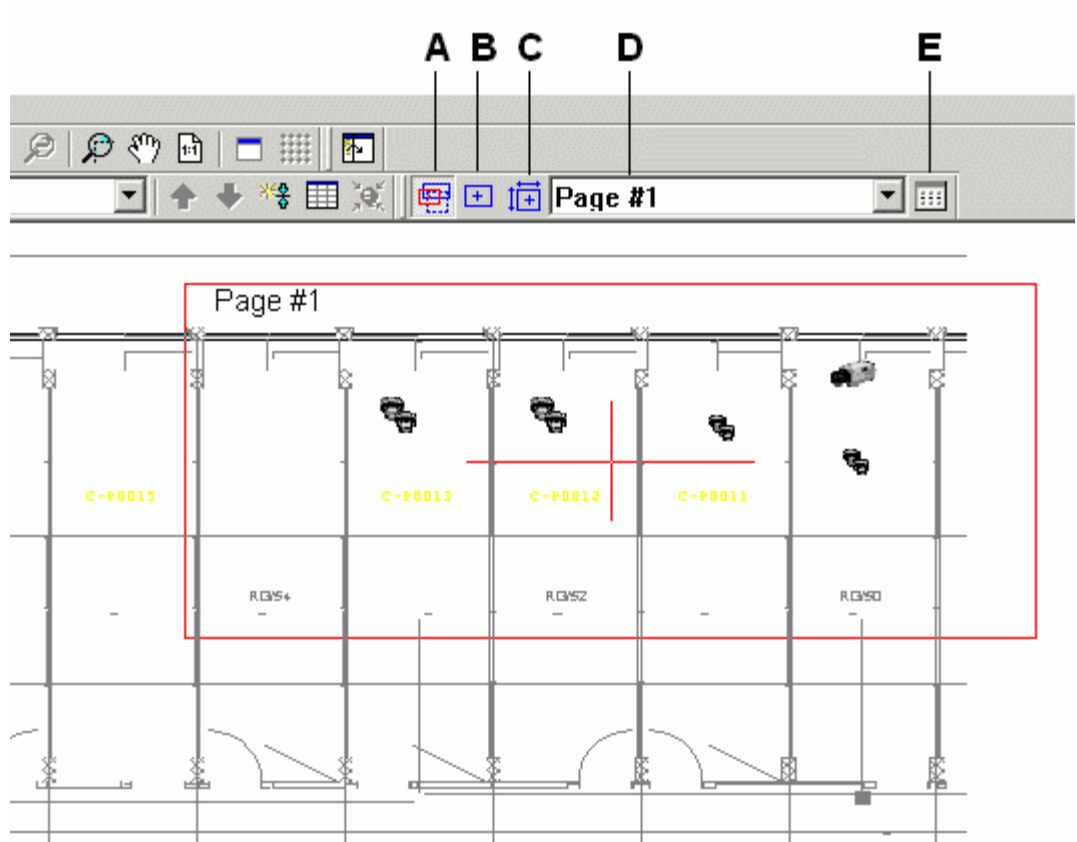

Fig. 17 Manually creating pages
2. Click the Toggle page icon to open page mode. (See “A” in Fig. 17.)
Select the Create icon, and then select an area on the page by dragging the rectangle. (See “B” in Fig. 17.)
- Click the Open list icon to display the list of configured pages. (See “D” in Fig. 17.)